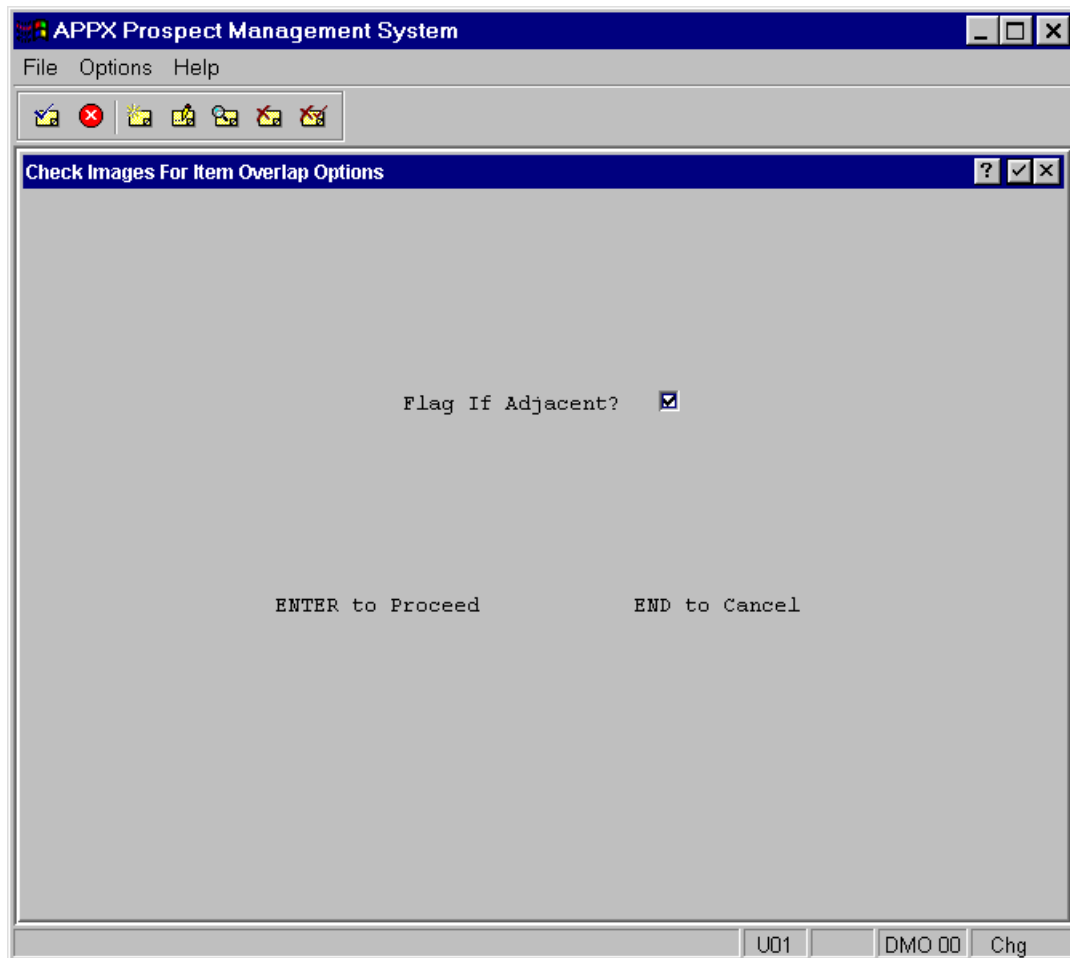

Figure E1.20 – Check Images for Item Overlap Options
- When you select this option you are presented with an **Options** screen (*Figure E1.20*). This screen prompts you to indicate whether or not you want APPX to flag items that are directly adjacent to other items (or text) on the image as errors. Accept the default value of Yes (✓) so you can manually review such occurrences of items and decide whether or not they need to be modified. Fields that overlap or that are too large and will no longer fit on the image will automatically be flagged as errors.